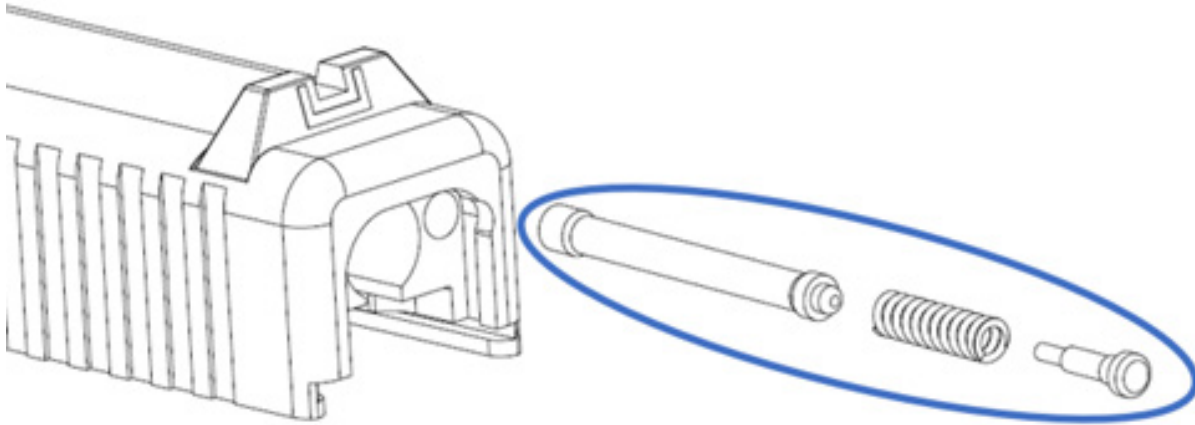

Figure 23: Extractor Depressor Plunger, Extractor Depressor Plunger Spring, and Spring Loaded Bearing.
3. Remove all parts inside the extractor housing: the Extractor Depressor Plunger, the Extractor Depressor Plunger Spring and the Spring Loaded Bearing (Figure 23).